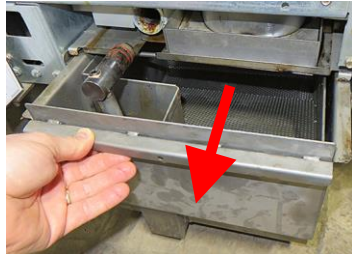

Figure 1
3. Remove the filter pan (see Figure 1).